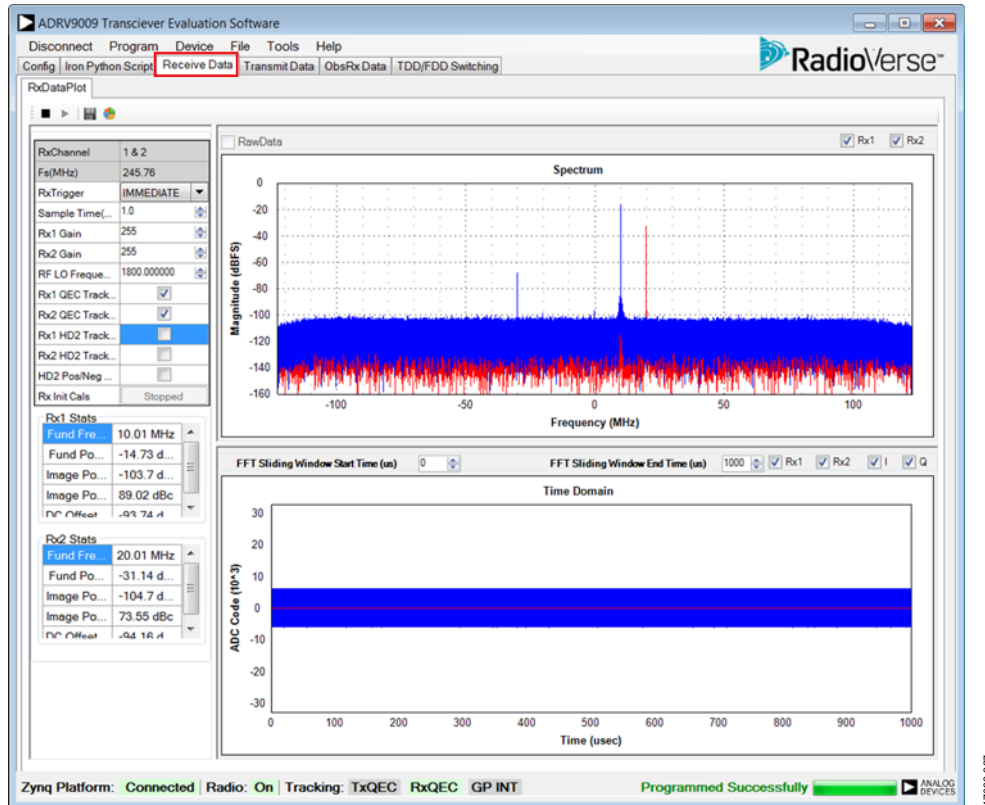

Figure 34. Receive Data Tab
After configuring software using the **Config** tab and selecting **Program**, the system is ready for normal operation. Selecting the **Receive Data** tab opens a page as shown in Figure 34. After the **Receive Data** tab is open, the user can enter the RF receiver center frequency in MHz. The receiver gain can be set by entering the desired gain index for each receiver channel. The gain index refers to the value in the programmable gain index table. Refer to the ADRV9008-1-W/ADRV9008-2-W/ADRV9009-W Hardware Reference Manual for gain index table specifics.
By pressing the play symbol in the **Receiver Data** tab, the transceiver moves to the receive state and graphs received data in both frequency and time domains. An example of a captured waveform is shown in Figure 34. The upper plot displays the FFT result and the lower plot shows the time domain waveform. If the FFT analysis is selected (by clicking the multicolored pie chart symbol), basic analysis information from the FFT is displayed on the left side of the screen. The status bar at the bottom of the TES shows the status of the receiver QEC and indicates whether the radio state is on or off.
5. After the ADRV9009 evaluation system is programmed, move to the **Receiver Data** tab shown in Figure 34. In this tab,